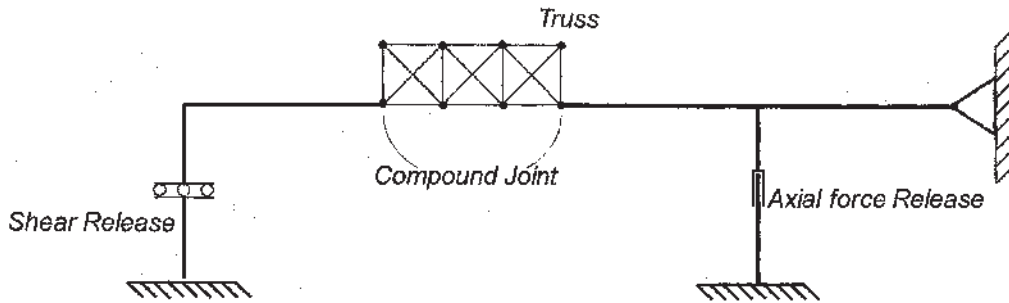

Fig. 3
Q. 5. Calculate the degree of static indeterminacy of the structure shown in Fig. 3. 5